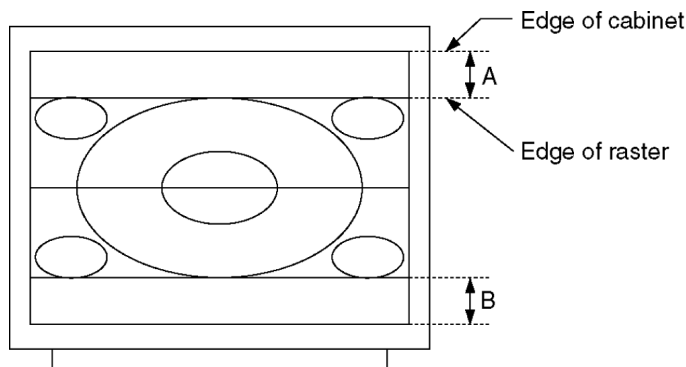

Fig. 22
5. Confirm that A, B in Fig. 22 is *1, if not, adjust V-AMP (AMP(100i/16:9)